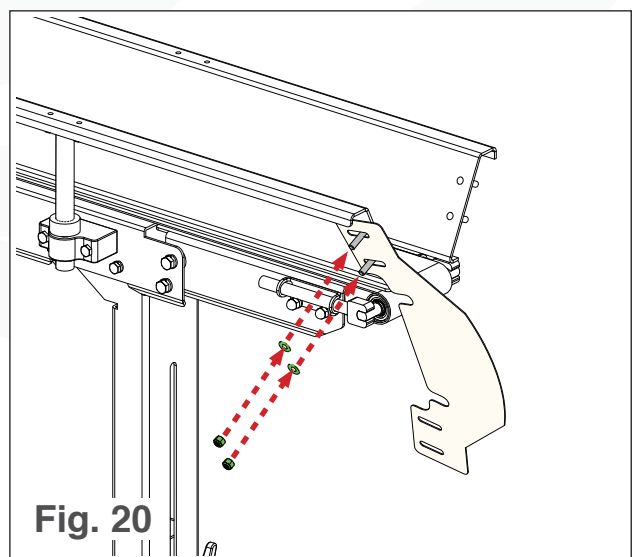

Fig. 20
2. Secure a flat washer, then a nyloc nut over the end of both standoffs (see Fig. 20). **Do not fully tighten the nuts yet.**